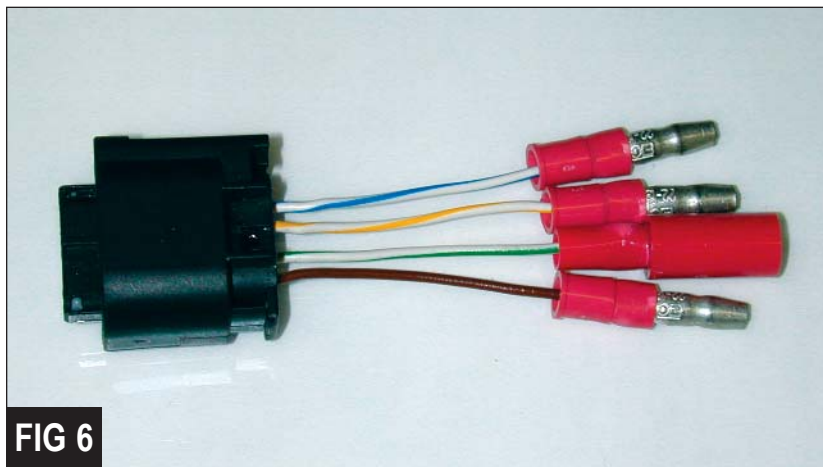

FIG 6
4. On the plug side from the rear saddle, remove 1/2" of the plastic covering from each wire, making sure to be careful not to cut through the wires. Twist the wires together on the green/white wire, bend them over in half, then crimp the male connector onto it. Do the same to the brown, yellow/white and blue/white wires, but crimp the female connectors onto them. This will be your adapter plug for future use if needed (*Figure 6*). You do not need this for your new Corbin saddle.